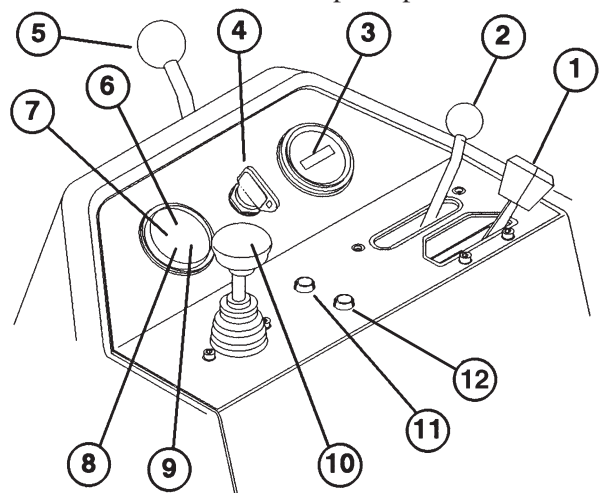

Figure 9
Throttle Control (Fig. 9)—The throttle controls the
Functional Control Lever (Fig. 9)—Provides two (2) traction selections, plus a “NEUTRAL” position. It is permissible to shift from mow to transport or from transport to mow (not to neutral) while the Greensmaster 3250-D is in motion. No damage will result.
Hour Meter (Fig. 9)—Indicates the total hours of machine operation. The hour meter starts to function whenever the key switch is turned to “ON”.
Ignition Switch (Fig. 9)—Insert the key into the switch, turn it clockwise as far as possible to the “START” position to start the engine. Release the key as soon as the engine starts; the key will move to the “ON” position. Turn the key counter-clockwise to the “OFF” position to stop the engine.
Steering Arm Locking Lever (Fig. 9)—Rotate the lever rearward to loosen adjustment, raise or lower the
Water Temperature Light (Fig. 9)—This light glows and the engine automatically shuts-down when the engine coolant temperature gets too high.
Water-in-Fuel Indicator Light (Fig. 9)—This light glows when water is detected in the fuel.
High-Temperature Override Button (Fig. 9)—If the engine kills due to an over heat condition, press the override button in and hold it there until the machine can be moved to a safe location and allowed to cool down.
Battery Warning Light (Fig. 9)—Light glows if the battery charge is low.
Oil Pressure Light (Fig. 9)—Light glows if the engine oil pressure drops below a safe level.
Raise/Lower/Mow Control (Fig. 9)—Moving this control forward during operation lowers the cutting units and starts the reels. Pull back on the control to stop the reels and raise the cutting units. During operation, the reels can be stopped by pulling back on the control momentarily, then releasing it. Restart the reels by moving the control forward.